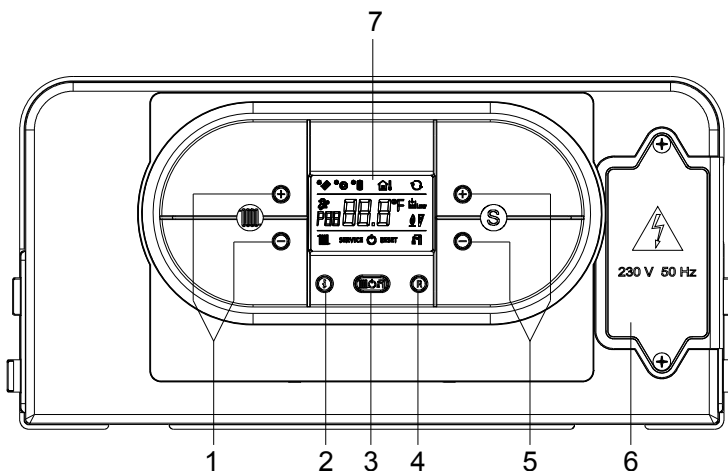

Fig. 1
To switch boiler operation to “SUMMER” mode, press the MODE SELECTION button  (page 2, fig. 1, pos.3). The boiler will only work for the D.H.W system, the heating system is disabled. The “SUMMER” mode setting of the boiler is signalled by the symbol , lit continuously on the control panel.
To switch boiler operation to “WINTER” mode, press the MODE SELECTION button  (page 2, fig. 1, pos.3). The boiler will only work for the Heating system. The “WINTER” mode setting of the boiler is signalled by the symbol  lit continuously on the control panel.
To switch boiler operation to “SUMMER-WINTER” mode, press the MODE SELECTION button  (page 2, fig. 1, pos.3). The boiler will work for both central heating/D.H.W systems. The “SUMMER-WINTER” mode setting of the boiler is signalled by symbols  lit continuously on the control panel.
The heating temperature is regulated by using ‘+’ and ‘-’ buttons of  Heating temperature setting (page 3, fig. 1, pos.1).
The D.H.W temperature is regulated by using ‘+’ and ‘-’ buttons  symbol side (page 2, fig. 1, pos.5).